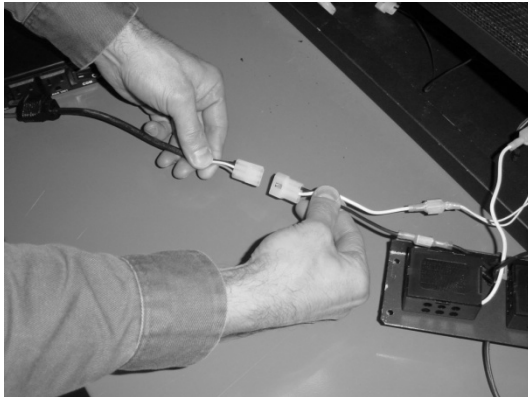
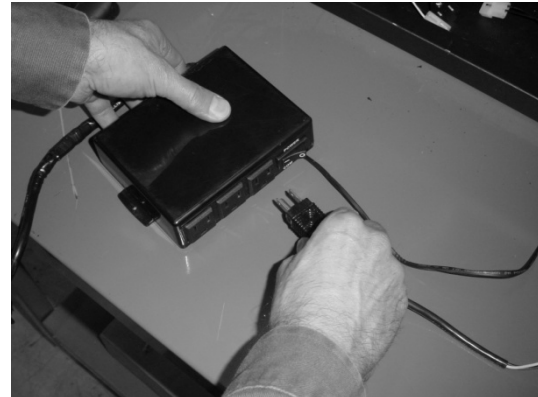

Figure 24
Figure 25
- 16 Disconnect the power lead from accent light and connect it to the power lead included with this kit (see Figure 24). Attach the power lead to the fan controller in the "AUX OUT" receptacle (see Figure 25).